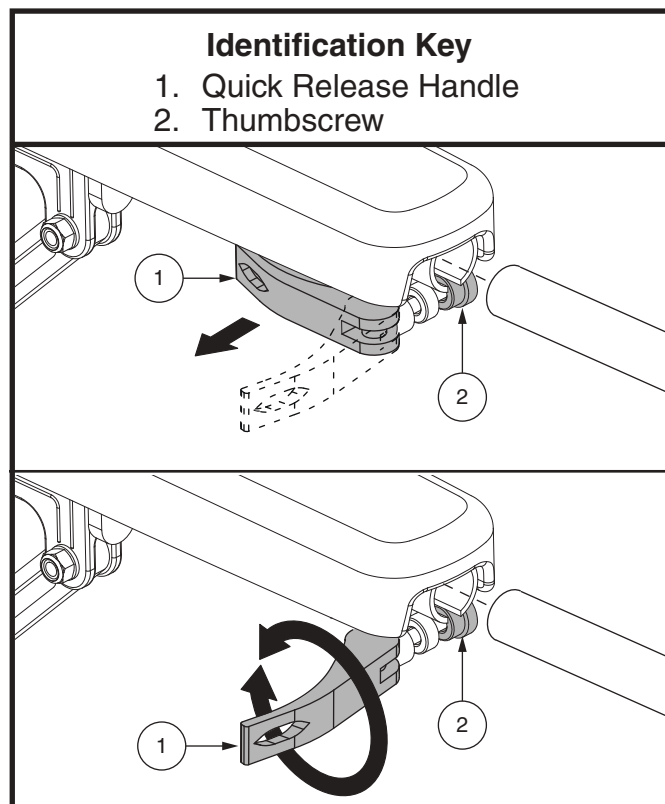
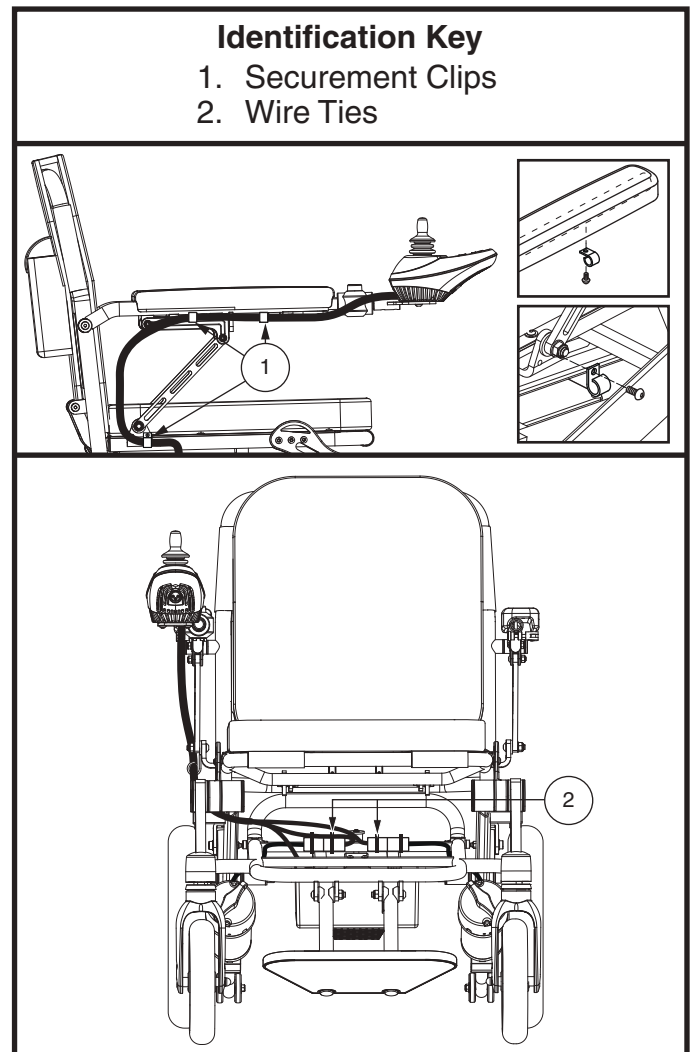

Figure 5. Armrest Component Removal/Installation
Figure 9. Controller Position
4. Insert the controller into the armrest and tighten the thumbscrew, then latch the quick release handle. **See figure 5.** Hook the controller harness to the securement clips. **See figure 9.**
3. Unlatch the quick release handle and loosen the thumbscrew, and then remove the controller from the armrest. **See figure 5.**
3. Unhook the controller harness from the securement clips. Uninstall the securement clips and reinstall them on the other side. **See figure 9.**
11. Use wire ties to secure the controller harness to the frame, and hook the controller harness to the securement clips. **See figure 9.** Ensure that the armrest can freely be raised and lowered without any tension on the harness so the securement clips do not become disconnected.